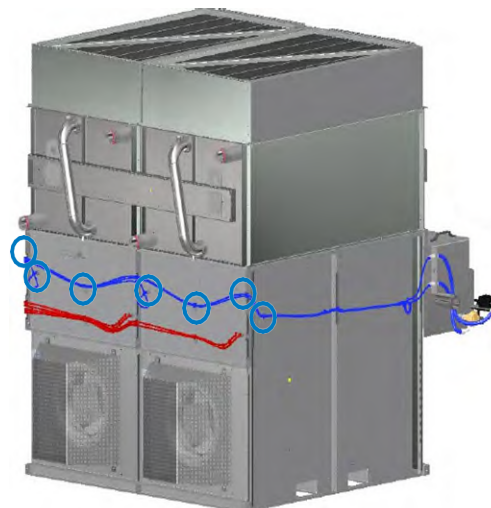

Figure 15. Fan Communication Wire and Component Wire Routing
3. Pull the fan communication wire through the first notch and the wire mount along with the component wire. Secure the wire with zip ties. The conductivity sensor, drain valve, and fan communication wire run together to the control panel. See **Figure 15**.